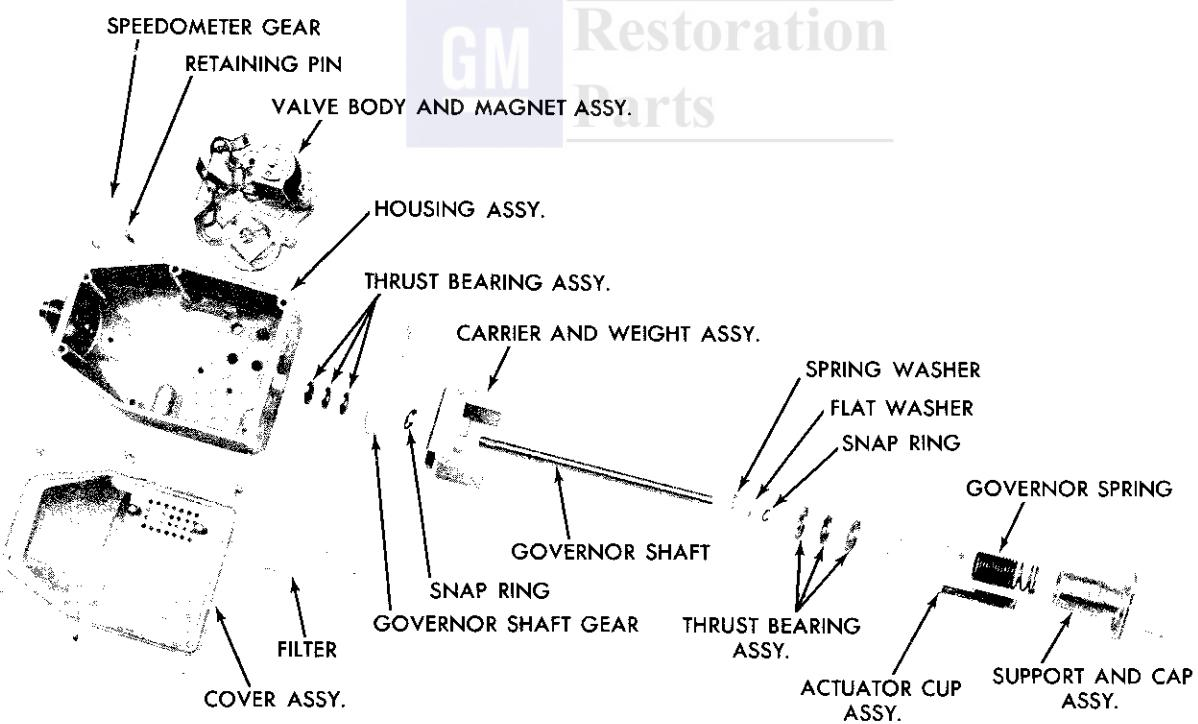

Fig. 15-4 Exploded View of Regulator
5. Slide the governor assembly away from the speedometer drive adapter end until the shaft is free of bearing. This will allow the governor assembly to be removed from the regulator. For further disassembly of governor see Fig. 15-4.